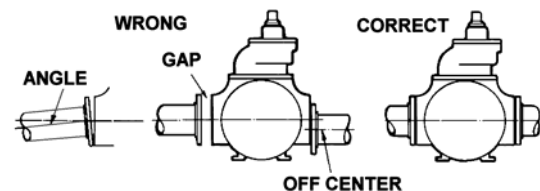

Figure 2
7. Check alignment of pipes to pump to avoid strains which might later cause misalignment. See Figure 2. Unbolt flanges or break union joints. Pipes must not spring away or drop down. After the pump has been in operation for a week or two, completely recheck alignment.